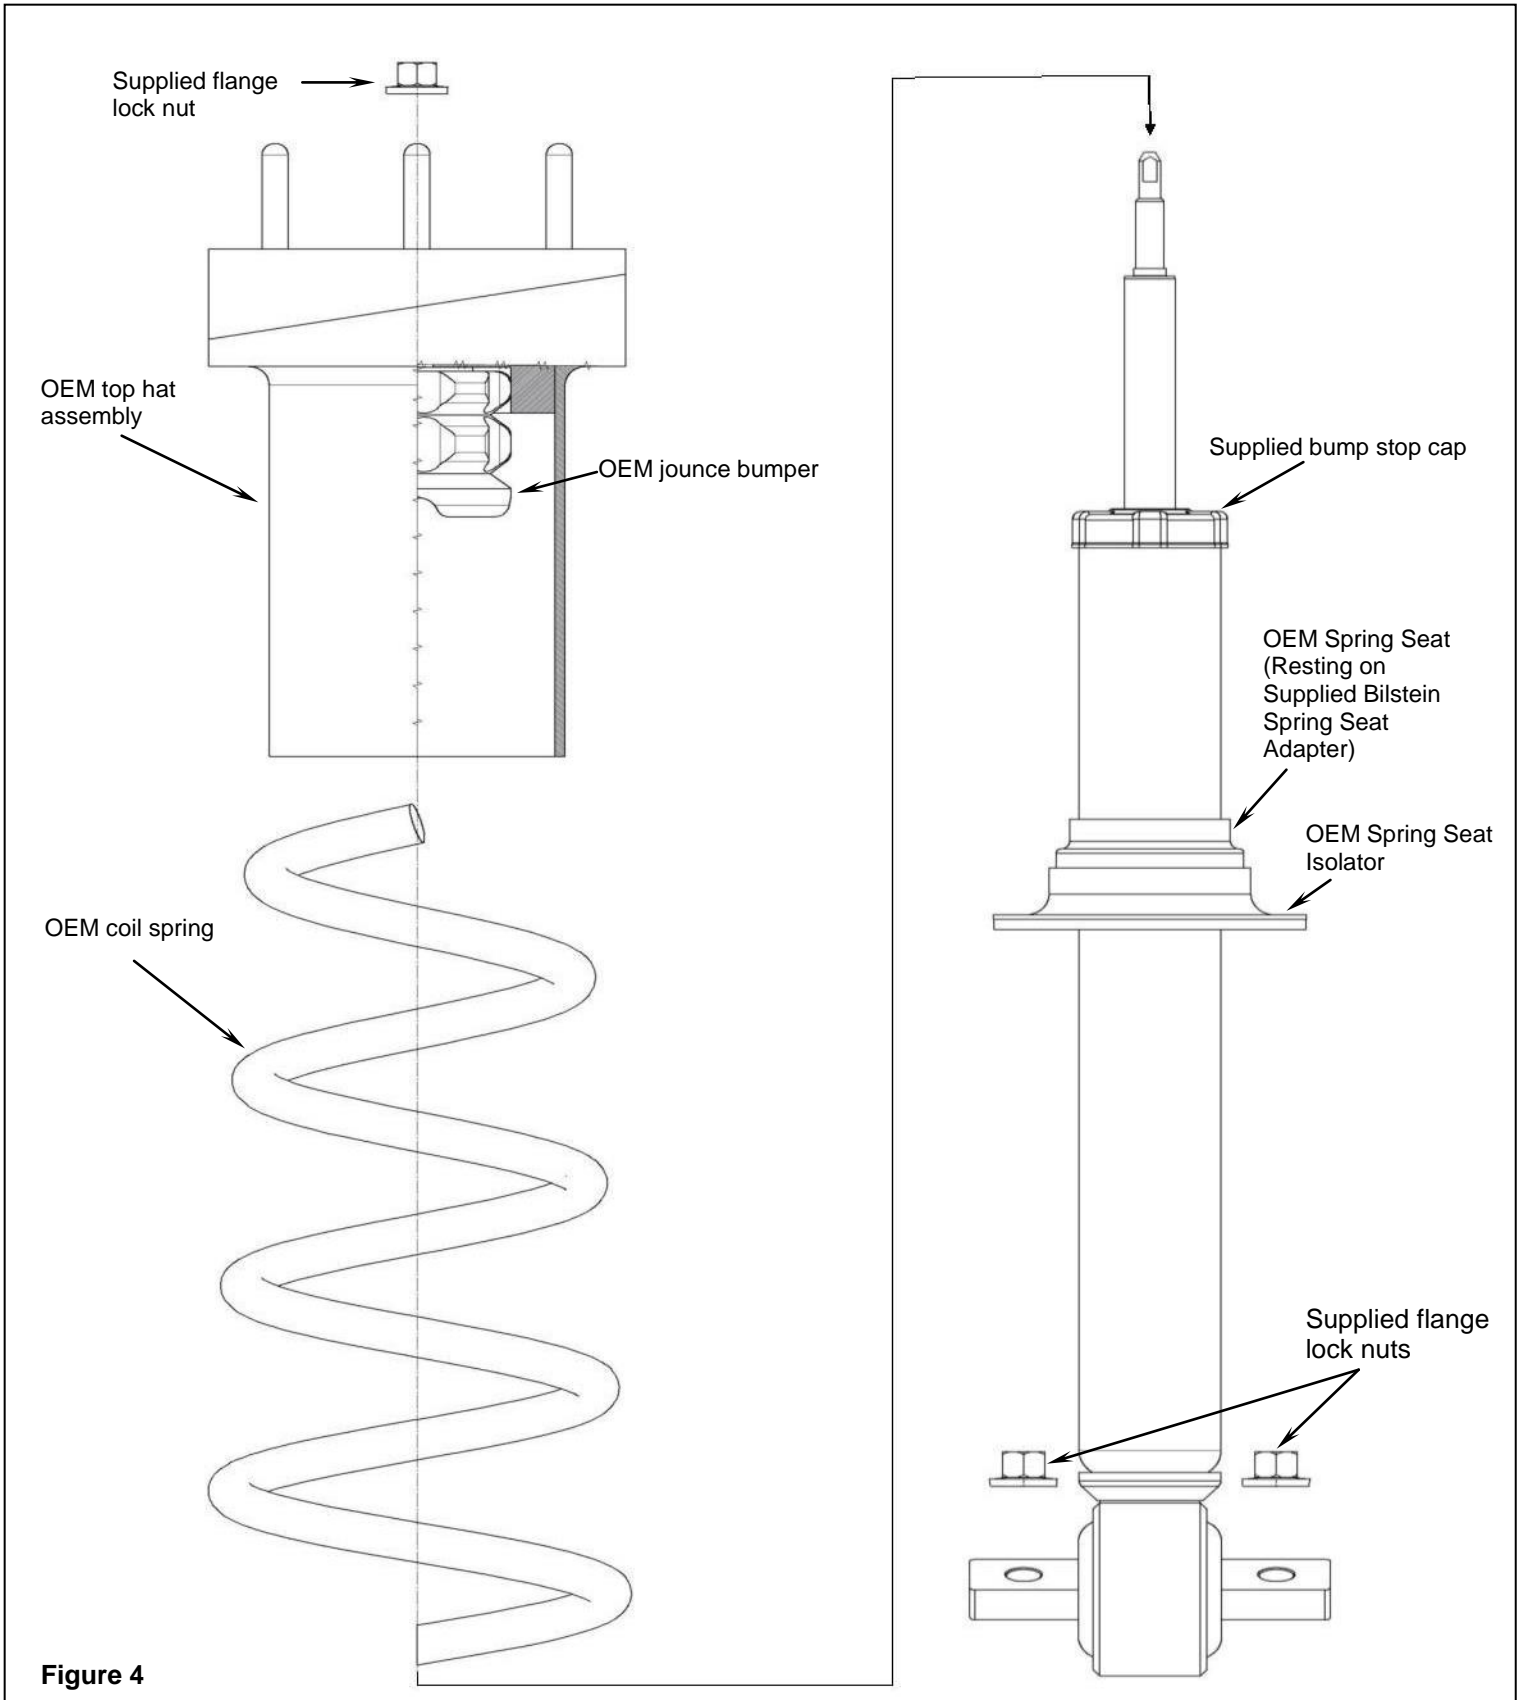

Figure 4
- F. Install the supplied bump stop cap onto the shock body as shown in Figure 4.
- H. Install the OEM top hat assembly (which includes the OEM dust boot, OE top mount plate, and OEM jounce bumper) over the threaded stem on the new Bilstein shock and on top of the spring. Refer to Figure 4.